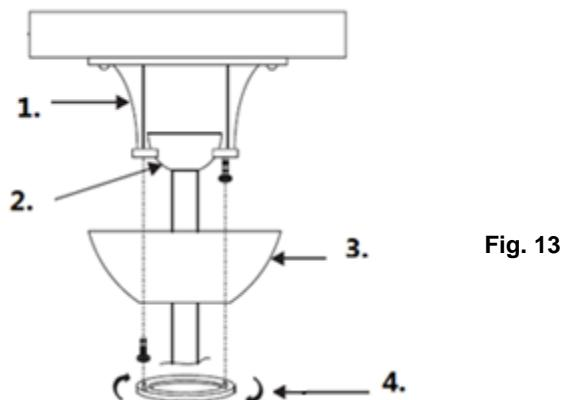

Fig. 13
- Remove 1 of 2 screws from the bottom of the hanger bracket (1) and loosen the other one a half turn from the screw head. (Fig. 13)
- Slide the canopy (3) up to the hanger bracket and place the key hole on the canopy over the screw on the hanger bracket and turn the canopy until it locks in place at the narrow section of the key holes.
- Attach the canopy cover (4) to the canopy and turn it clock wise to secure it.